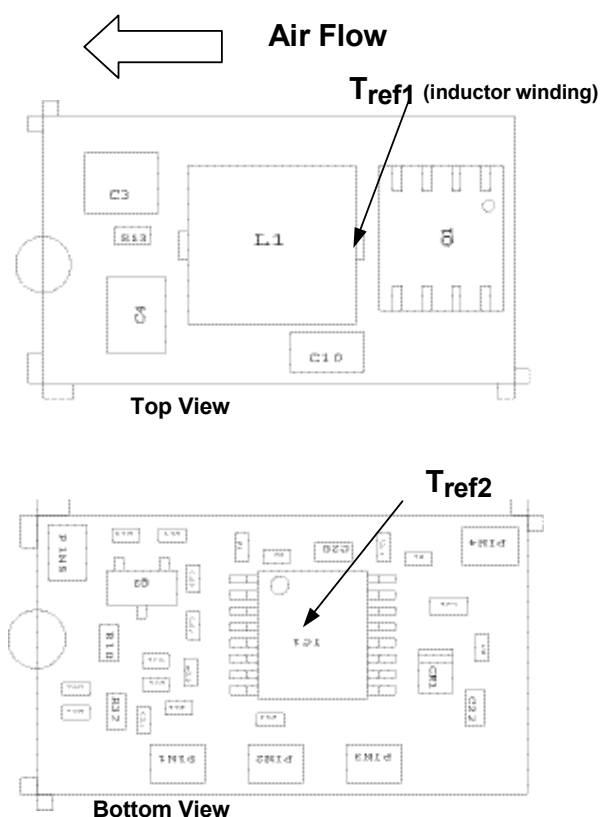
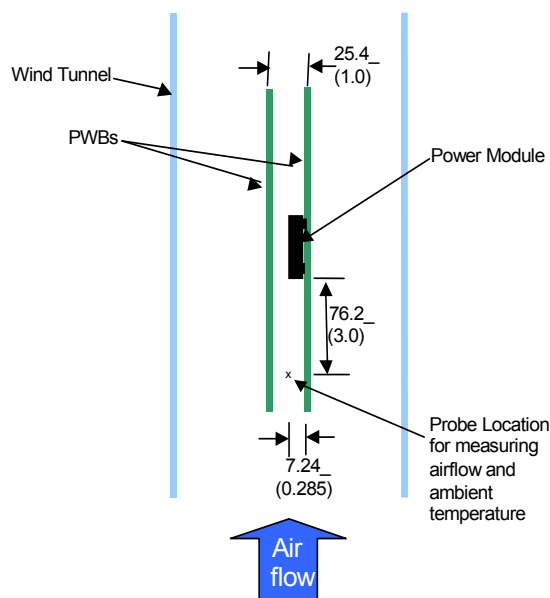

Figure 32.  $T_{ref}$  Temperature measurement location.
Figure 33. Thermal Test Set-up.
Considerations include ambient temperature, airflow, module power dissipation, and the need for increased reliability. A reduction in the operating temperature of the module will result in an increase in reliability. The thermal data presented here is based on physical measurements taken in a wind tunnel. The test set-up is shown in Figure 33. Note that the airflow is parallel to the long axis of the module as shown in figure 32. The derating data applies to airflow in either direction of the module's long axis.
The thermal reference point,  $T_{ref1}$  used in the specifications of thermal derating curves is shown in Figure 32. For reliable operation this temperature should not exceed 125°C.